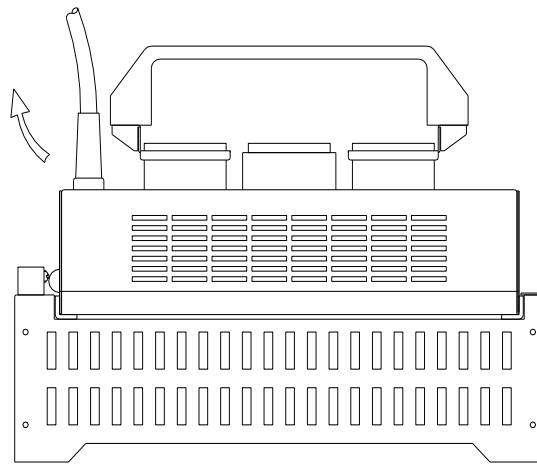

Fig. 11 Remove Irradiator from Docking Station
- Remove the Irradiator from the Docking Station; pull the latch and lift the Irradiator. Always hold the Irradiator facing downwards. Do not look directly at the UV lamp. See Fig. 11.